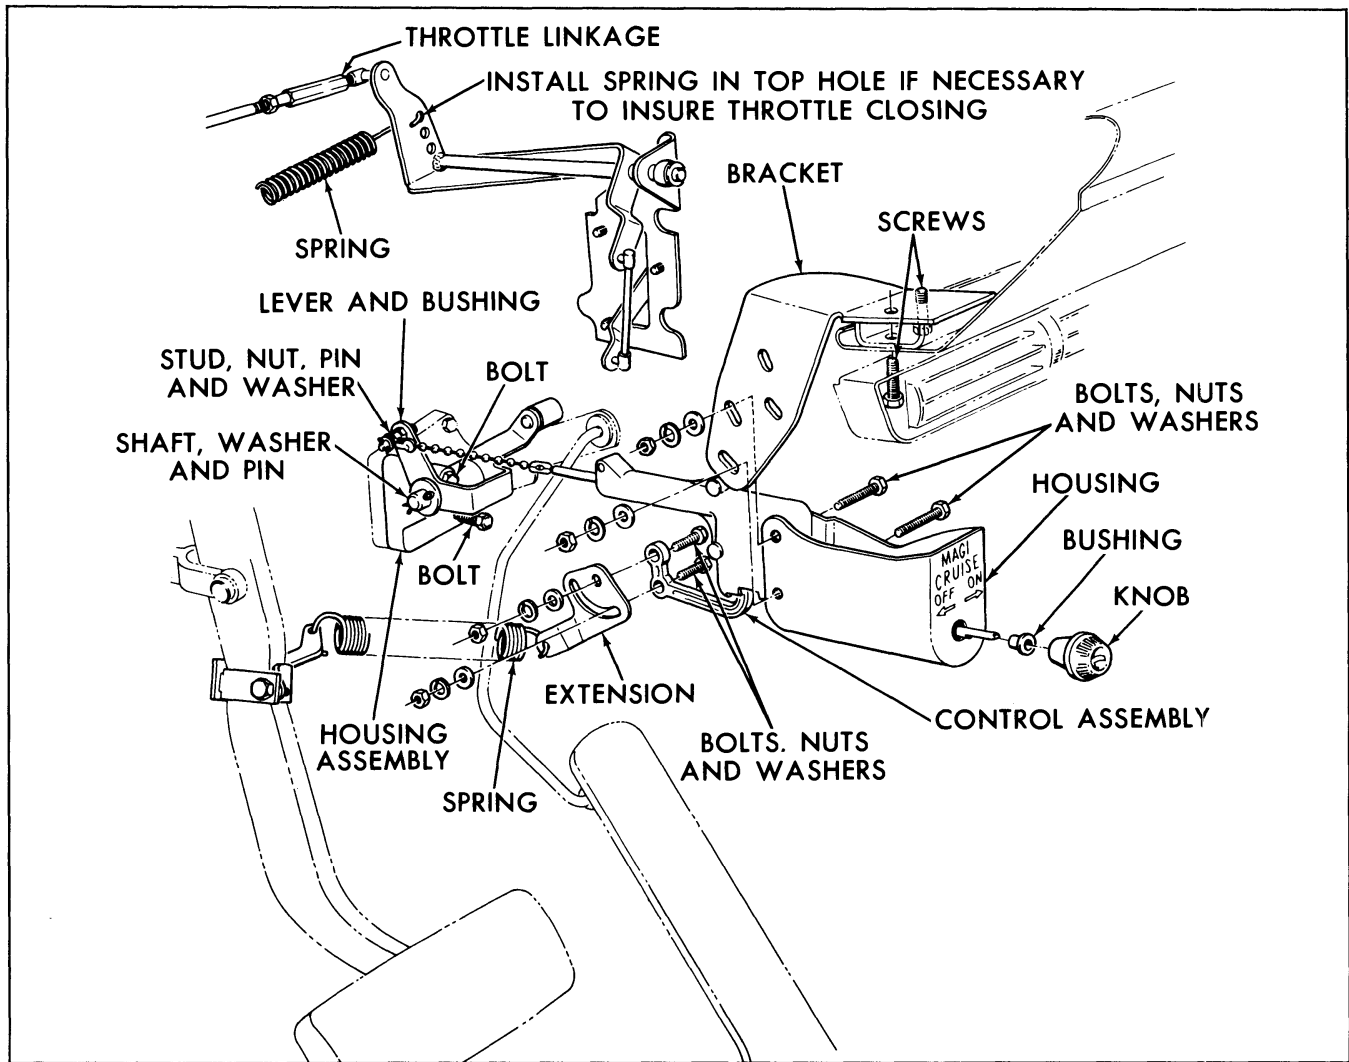

Fig. 12-37 Reference Illustration—Magi-Cruise Control
DESCRIPTION (Fig. 12-37)
5. Install bead chain between the release spring and the release lever on the control leaving approximately two beads of slack (Fig. 12-37).